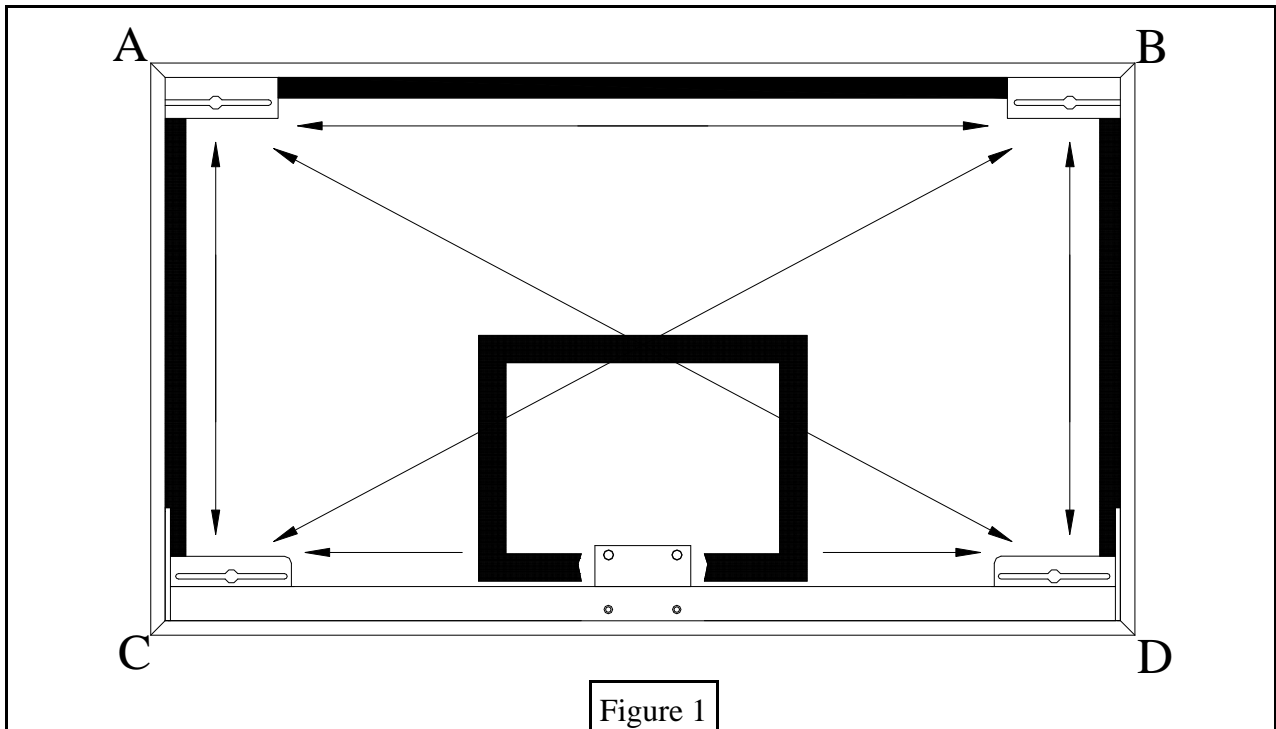

Figure 1
4. After mounting the backboard use a 3' or 4' precision level to check the glass surface ensuring that it is flat, level and plumb in all directions. Only when the board has been inspected and determined to be unstressed and level in all directions should play be allowed. See Figure 1.
5. If the backboard is stressed or out of level as indicated in #4 above loosen the A and D corners and see if either backboard bracket springs away from the mounting structure. If so this is a sure sign that you have placed stress on the backboard when you tightened the mounting bolts. See Figure 1.
7. Repeat steps 5 and 6 with the B and C corners, recheck in all directions. See Figure 1.